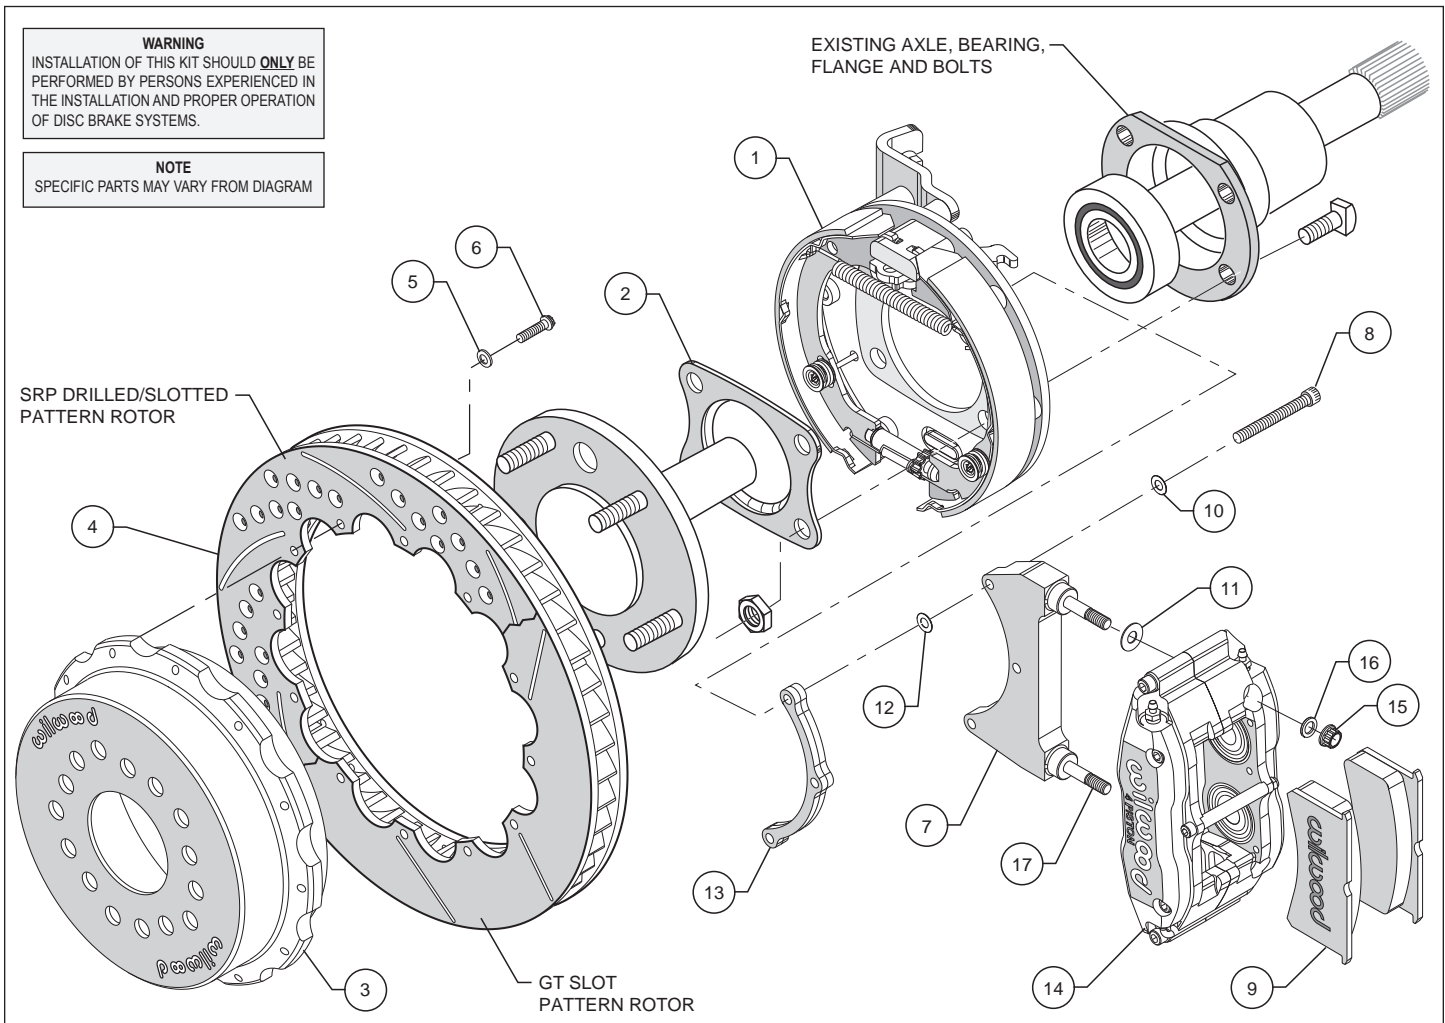

Figure 1. Typical Installation Configuration
- Full Circle Retainers** require the utilization of a qualified machine shop to press off the axle bearing and OEM retainer. Then have machine shop install new retainer (2), supplied with bracket kit with lip facing toward bearing, reference Figures 1, 4 and 5 (we suggest that you install a new bearing at this time, not supplied with kit).
- "U" Retainers** require the removal of the OEM retainer by cutting or grinding a notch in the retainer to facilitate removal. Once OEM retainer is removed, install new retainer (2) supplied with bracket kit with the "U" opening facing up and the lip facing toward bearing, reference Figures 1, 4 and 5.
- Align the correct hole pattern in the hat (3) with the stud pattern on the axle flange. **NOTE:** Some OEM and aftermarket axles come with stud sizes larger than 0.50" diameter. Verify stud size and have a qualified machine shop drill the hats to the correct size, if necessary. Slide the hat/rotor assembly (3 and 4) over the wheel studs covering the bracket kit assembly (1) and against the axle flange face. Check to be sure the hat seats squarely against the hub. Install a couple of lug nuts (finger tighten) to keep the rotor/hat assembly in place while continuing with the installation.
- NOTE:** Please reference the caution statement at the beginning of the assembly instructions. The caliper mounting bracket assembly (7) should be installed first with clean, dry threads on the mounting bolts (8). Install the bracket from the rear side of the bracket kit assembly (1) by sliding bolt (8) through flat washer (10), bracket (7), shim washer (12) and finally through the spacer (13), see Figure 1. **NOTE:** End of bolt should not exceed inside face of insert. The bracket must tighten squarely against the back side of the bracket kit assembly (1). Inspect for interference from casting irregularities, machining ridges, burrs, etc. Use one thin shim (12) between the bracket (7) and spacer (13) during initial trial fitting.
- Install one shim (11) over each pre-installed stud (17) on the radial mount bracket (7). Slide the caliper (14) in place over the studs and rotor, then install the washer (16) and lock nut (15) to hold the caliper in place. The caliper bleed screws should be pointing up. Snug the lock nuts (15) and check that the rotor (4) is centered in the caliper (14). Add or subtract .015" shims (12) as necessary between the caliper mounting bracket (7) and the spacer (13) to center the caliper (14).
- Remove the caliper center bridge pad retainer bolt, nut, and tube from the caliper. Slide the brake pads (9) into place. They should install easily without interference. Check that the outside radius of the brake pad is aligned with the outside diameter radius of the rotor face. Add or subtract shims (11) between the caliper (14) and mount bracket (7) to gain the proper alignment. Reinstall the center bridge pad retainer tube, bolt, and locknut. The locknut should be snug without play in the bolt or tube. Be cautious not to over tighten.
- Adjust the parking brake shoes outward (using a drum shoe adjustment tool available at your local auto parts store) while spinning the hat (3) until a slight drag is felt against the hat/drum. Remove the lug nuts that were holding the hat/rotor in place. Install the wheel and lug nuts. Check to see that the wheel rotates freely without interference.
- Once all clearances have been checked, remove the wheel, caliper, hat/rotor from the bracket kit assembly (1). Secure the caliper mounting bracket (7) to the bracket kit assembly (1) using red *Loctite*[®] 271. Torque bolts (8) to 180 in-lb. Reinstall the hat/rotor assembly and again use lug nuts to hold it in place. Lubricate caliper mounting studs and nuts with lightweight oil, reinstall the caliper, torque the caliper nuts (15) to 30-35 ft-lb.
- NOTE:** Clevis and cable kits which attach to the parking brake assembly are not included in the Wilwood parking brake kit. Wilwood offers a generic style parking brake cable kit, P/N 330-9371 for this application which can be ordered separately from your local Wilwood dealer or by calling Wilwood customer service at (805) 388-1188.